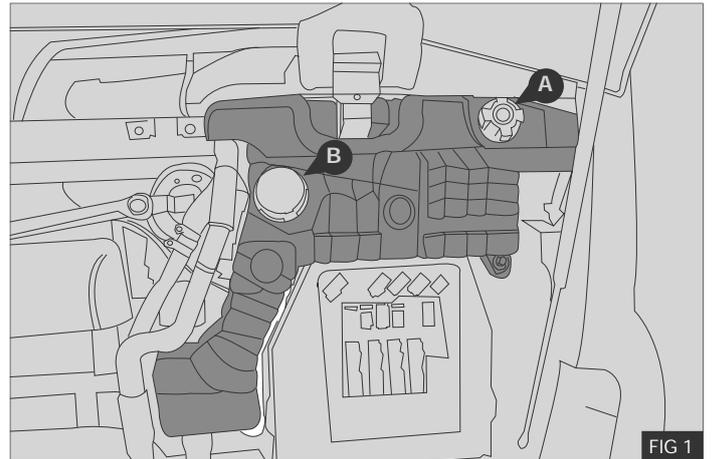

FIG 1
2. Loosen the radiator cap **A** - Fig.1
4. Refit the radiator drain plug ⑨ and refill the radiator with the coolant fluid previously removed via the filling points ⑩ & ⑪ - Fig.1